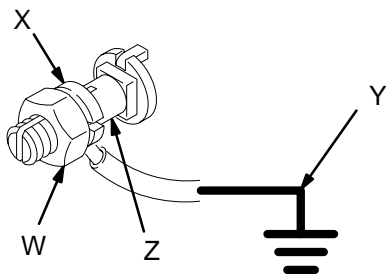

Fig. 2
- *Pump:* Loosen the grounding lug locknut (W) and washer (X). Insert one end of a 12 ga (1.5 mm2) minimum ground wire (Y) into the slot in lug (Z) and tighten the locknut securely. Connect the other end of the ground wire to a true earth ground. See Fig 2. *To order a ground wire and clamp, order Part No. 222011.*